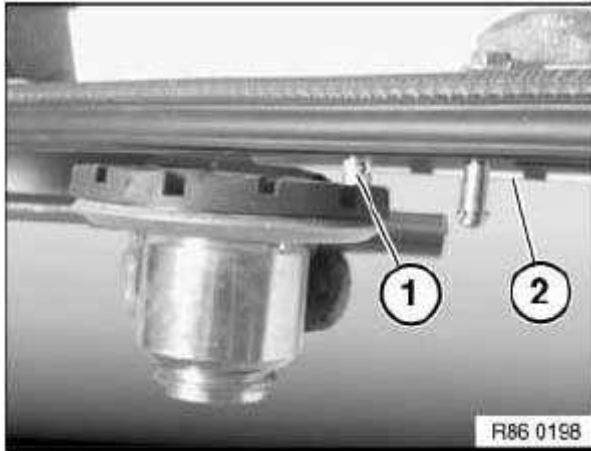

Fig. 39: Identifying Pin And Hood In GFP Area
IMPORTANT: The hood may only be raised at the pin (1). Under no circumstances may the hood be raised at the GFP edge of the hood (2). See **Fig. 39**. Exclusively for removal of pin (1), raise the hood in the GFP area.